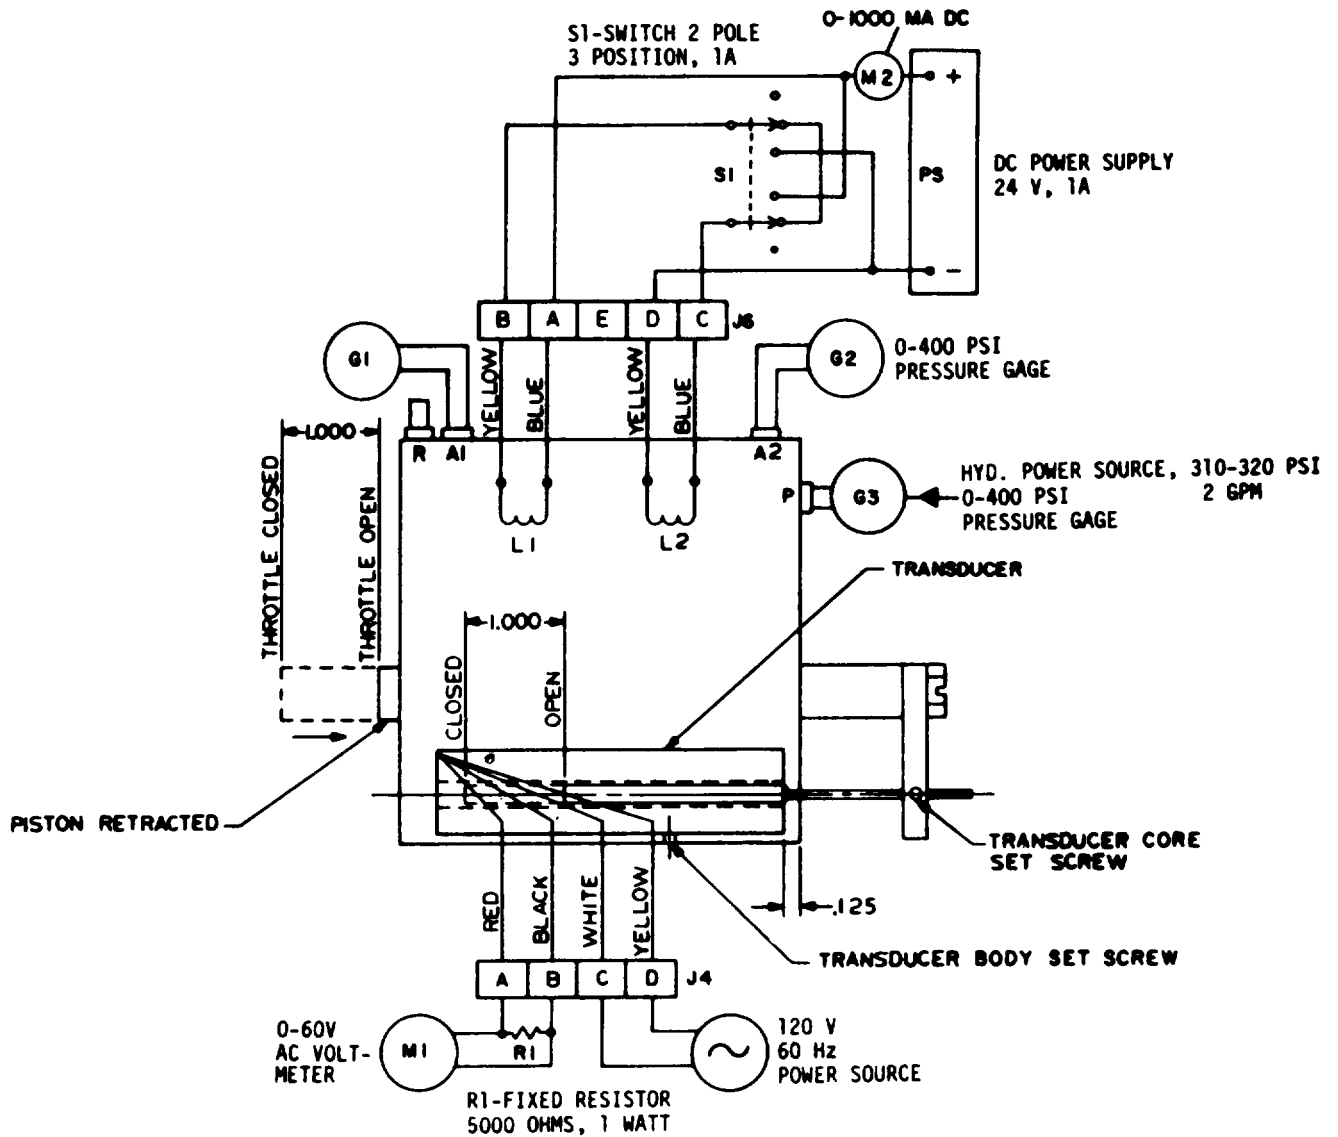

Figure 3-40. Hydraulic Actuator Tests, Schematic Diagram
- (1) Actuator Valve and Piston Test.
- (a) See figure 3-40 to perform the valve and piston test.
- (e) With hydraulic power but no electric power applied, adjust the valve with Allen set screw to yield 200 psi  $\pm$  10 psi at A1 port (gage G1) and 150 psi  $\pm$  10 psi at A2 port (gage G2). (See figure 3-40).
- (h) Set switch S1 to connect power (PS) to coil L2 and apply 700 ma  $\pm$  40 ma. Pressure at A1 port (gage G1) shall be 310 to 400 psi. pressure at A2 port (gage G2) shall be 0 to 20 psi.
- (i) Set switch S1 to connect power (PS) to coil L1 and apply 700 ma  $\pm$  40 ma. Pressure at A1 port (gage G1) shall be 0 to 40 psi and pressure at A2 port (gage G2) shall be 310 to 400 psi.
- (2) Throttle Position Transducer Test.
- (a) With voltmeter (M1), resistor (R1) and 120  $\pm$  1%, 60 Hz) power source connected as shown in figure 3-40, move piston to fully open throttle position.